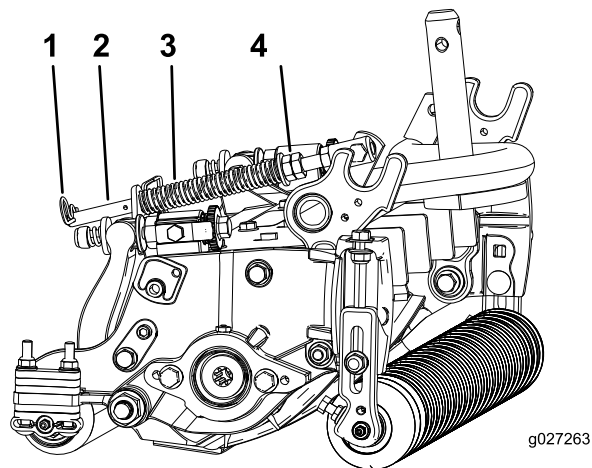

Figure 19
1. Make sure that the hairpin cotter is installed in the rear hole in the spring rod (Figure 19).
2. Tighten the hex nuts on the front end of the spring rod until the compressed length of the spring is 12.7 cm (5 inches); refer to Figure 19.